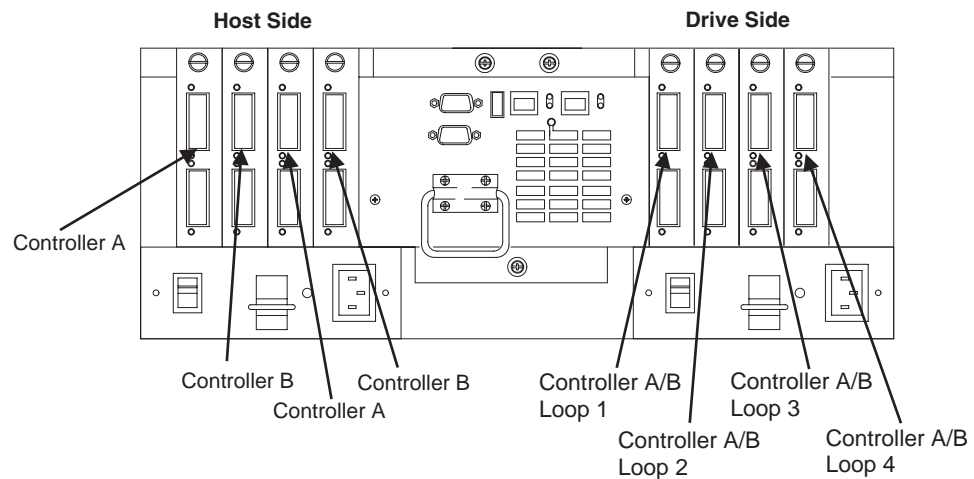

Figure 27. FAStT500 controller connection locations
Figure 27 shows the locations of the controller connections in a FAStT500 or DS4400 fibre channel controller unit.
**Note:** In Figure 27, a FAStT500 controller unit is shown.